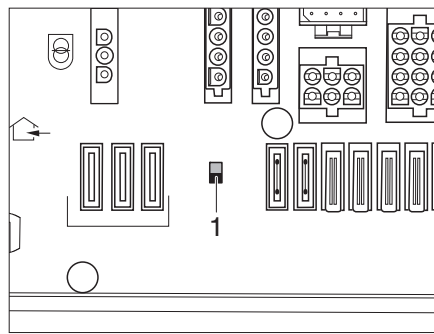

Fig. 267 Battery cut-off switch
- Switch the battery disconnect switch (Fig. 267,1) on the EBL to "ON".